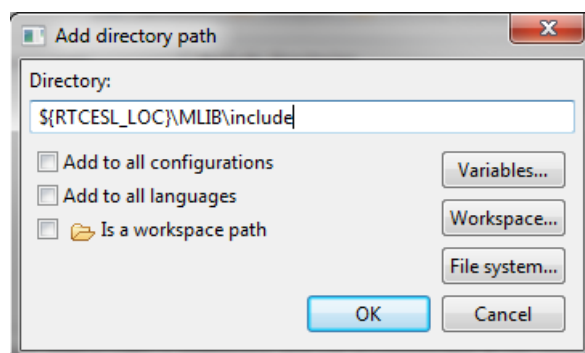

Figure 1-10. Library include path addition
28. Click the Add... button on the right, and a dialog appears. See Figure 1-10.